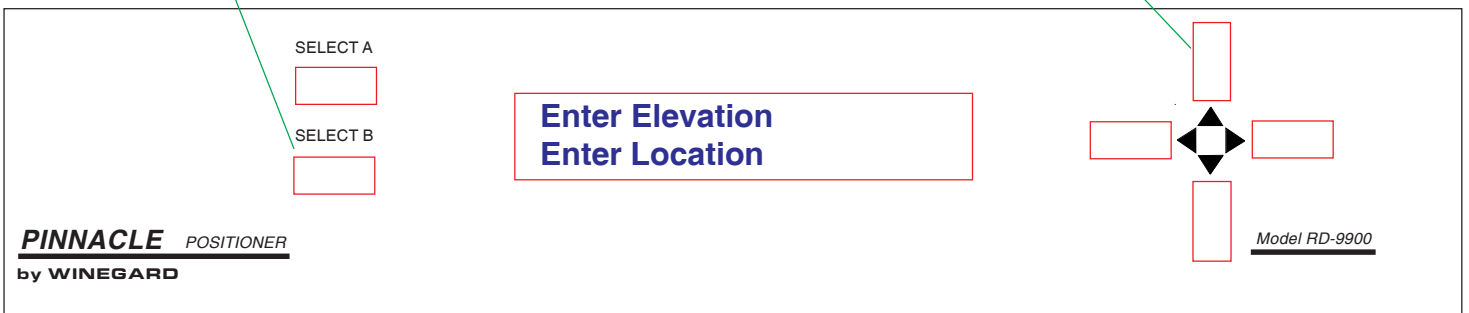

Figure 18
5. Press **[UP]** arrow button, Figure 18.
6. Press **[SELECT B]** **Enter Location**, Figure 18